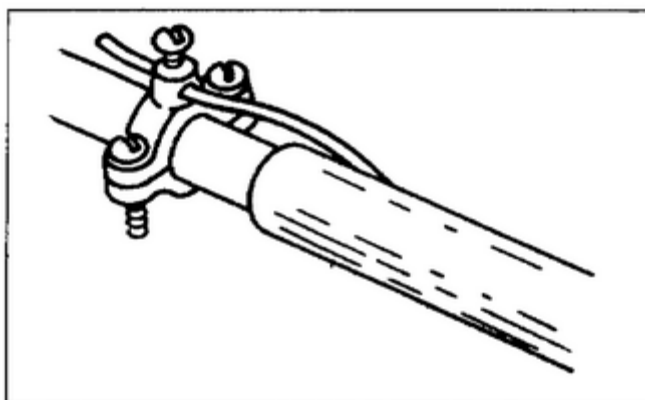

Figure 2-5. Ground conductor installed on a metallic water pipe
d. Metallic water pipe that has 10 feet or more of its length in direct contact with soil must be bonded into the grounding system (Figure 2-5, page 2-4).